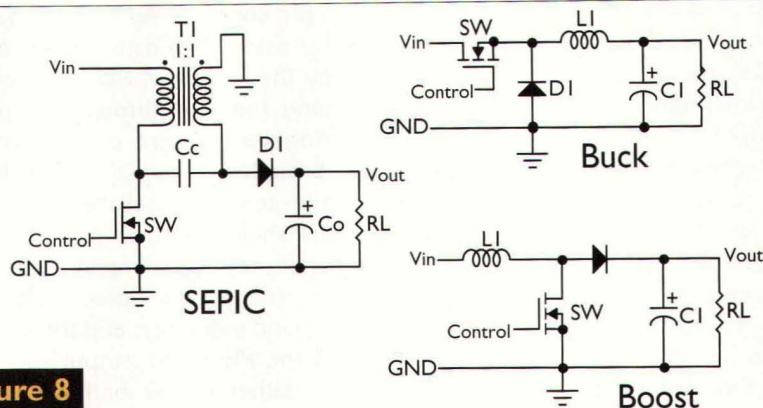

Figure 8
A. While there are a few different topologies that can be used for a step-up/step-down converter, notably the flyback configuration, I think you're referring to the single-ended primary inductor converter, or SEPIC. Let's compare buck and boost and SEPIC in the following drawing (Figure 8).